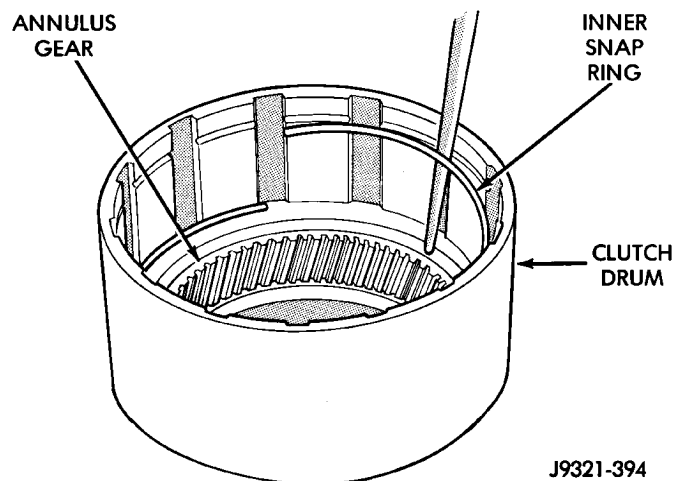

Fig. 224 Clutch Drum Inner Retaining Ring Installation
(6) Slide clutch drum forward and install inner retaining ring (Fig. 224).